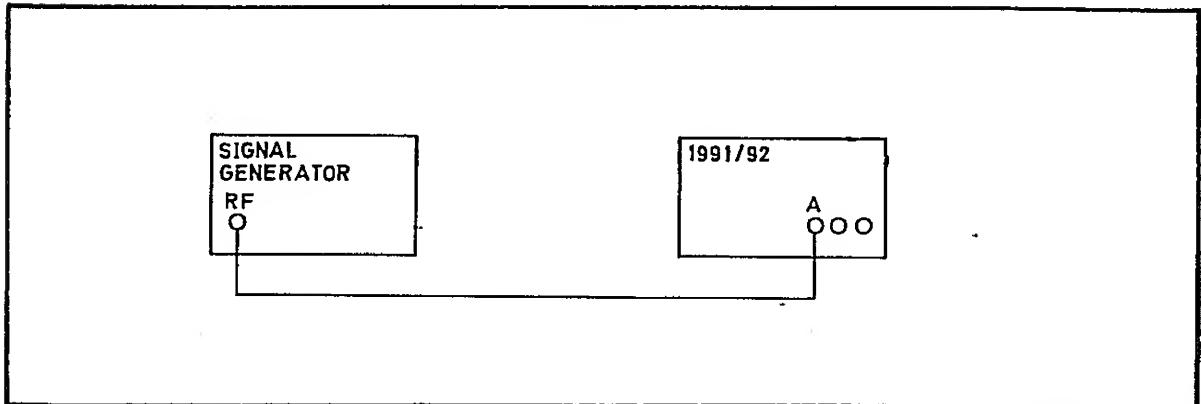

Fig 7.21 Connections for Minimum Time Interval PVP
57 (1) Connect the test equipment as shown in Fig 7.21.
- (2) Select 50 Ω on channel A, T.I. A B and COM A.
- (3) Set the signal generator output to 100 MHz at a level of 1 V.
- (4) Verify that a display of $0 \pm 2\text{ns}$ is obtained.
- (5) Disconnect the test equipment.